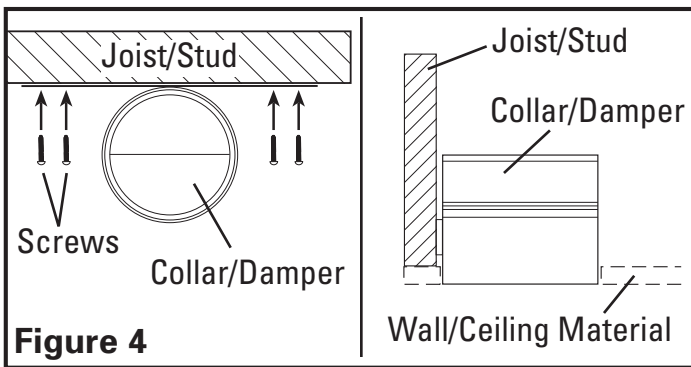

Figure 4
- Install the collar/damper in the selected location using the provided 1" wood screws through the mounting strap. The mounting height is determined by the thickness of the final wall/ceiling material. Ensure that the edge of the collar/damper will be flush with the finished wall/ceiling material (**Figure 4**).
2. Position the collar/damper in the previously cut hole so that it is flush with the finished ceiling and secure to the joist/stud using the provided 1" wood screws through the mounting strap (**Figure 4**).